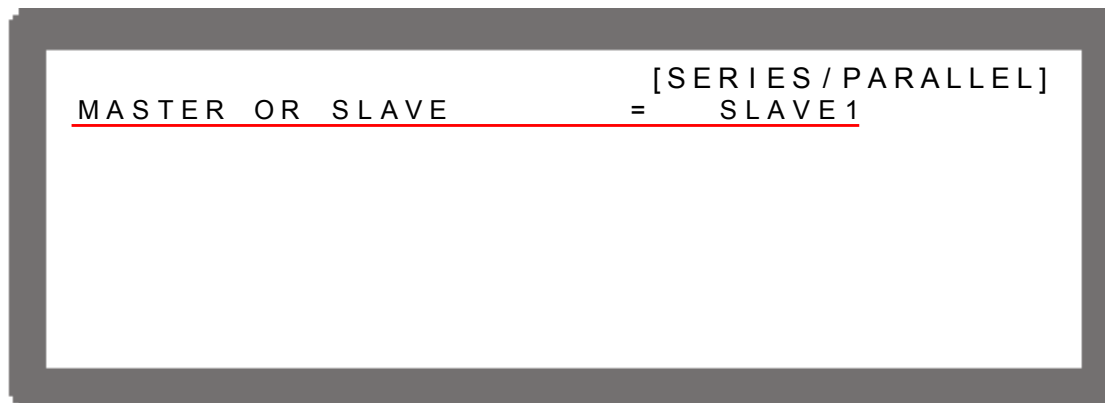

Figure 3-37
2. Use the numeric (1~4) keys or “Rotary” () knob to set SLAVE1~SLAVE4 as Figure 3-37 shows.